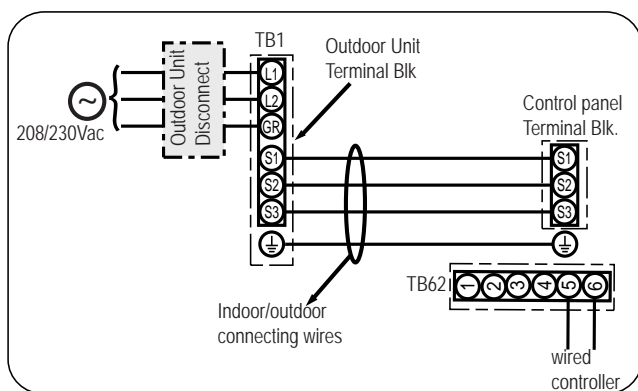

Fig. 6-1
6.1. Outdoor unit (Fig. 6-1, Fig. 6-2)
- 2 Wire the cables referring to the Fig. 6-1 and the Fig. 6-2.